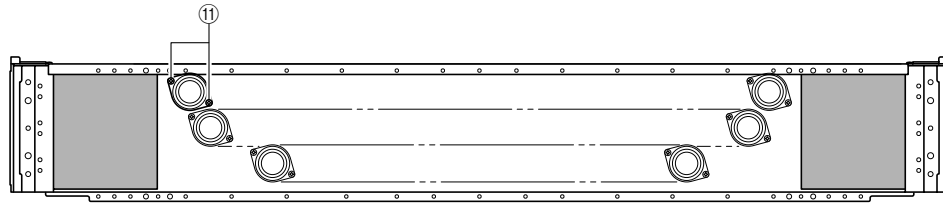

Fig. 11
- Remove 2 screws/piece marked (11). (Fig. 11)
- ⑪のネジ 2本/個を外します。(Fig. 11)